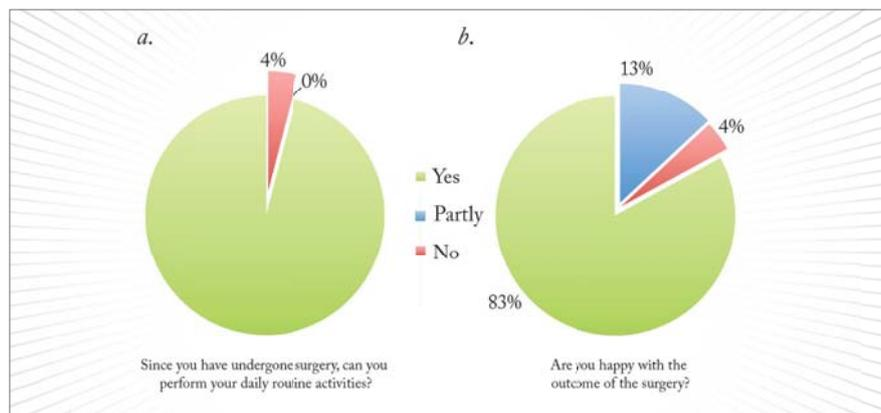

Figure 1. Patients' self-reported results for the first (a) and second (b) questions of the DATE questionnaire.
Figure 1. A short series of quick assessments can help identify patients who exhibit the signs of ocular surface disease and would benefit from preservative-free topical therapy. CFS, corneal fluorescein staining; MGD, meibomian gland dysfunction; TBUT; tear film break-up times. Adapted from (8).